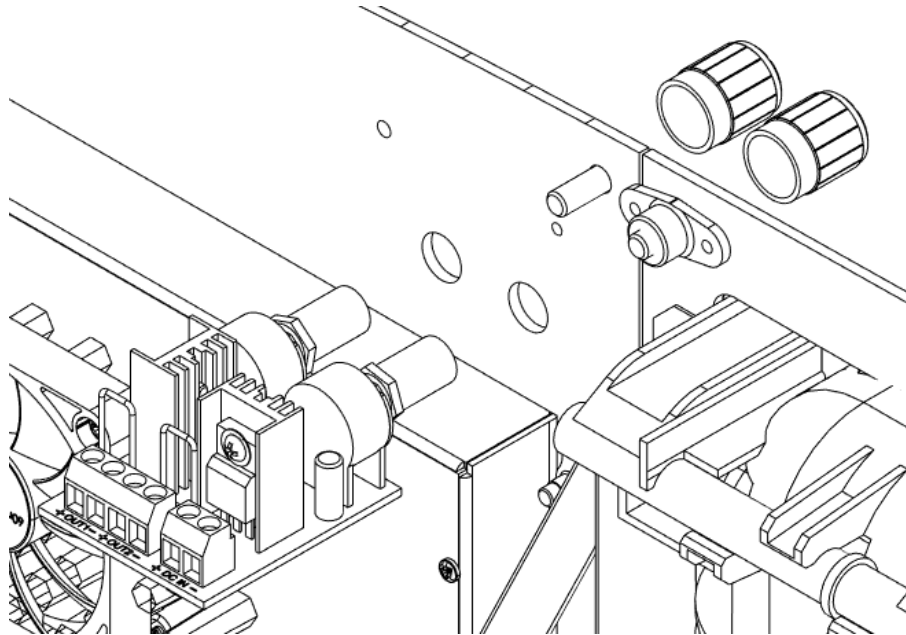

Fig. 3: Dashboard with old dimmer
- 5) Pull out the dimmer from back of the dashboard (see Fig. 3).